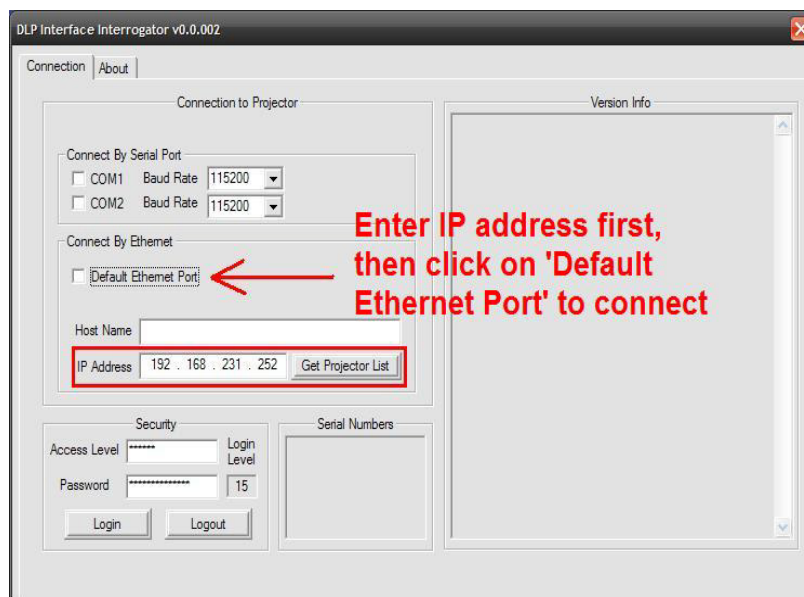

Figure 12 Ethernet Connection
- Enter the IP address first, then click on 'Default Ethernet Port'. This will establish a connection through the Ethernet port of the DLP electronics (**Figure 12**).